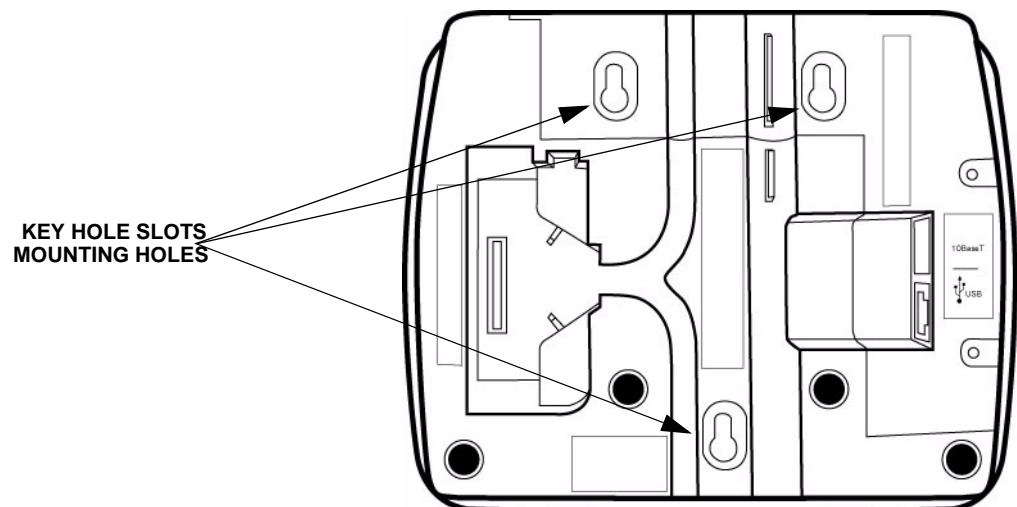

Figure 12 Omni 7xxxMPD Series Terminal Bottom View
- 1 Create a template of the three key hole slots on the bottom of the Omni 7xxxMPD series terminal (Figure 12).